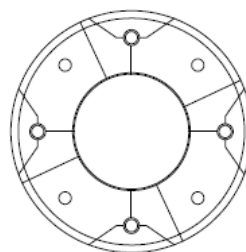

FIG.1-2
- Place canopy (F) over the mounting plate (B) and secure with screws (Z).
- Secure chain (M1) to hole (V1), chain (M2) to hole (V2), and chain (M3) to hole (V3) with the screws provided (Fig.1-2)
- Install the bulbs (P) into sockets (S). (12 × Max 100W) **DO NOT EXCEED THE SPECIFIED WATTAGE! (NE PAS DEPASSER LA PUISSANCE NOMINALE MAXIMALE!)**